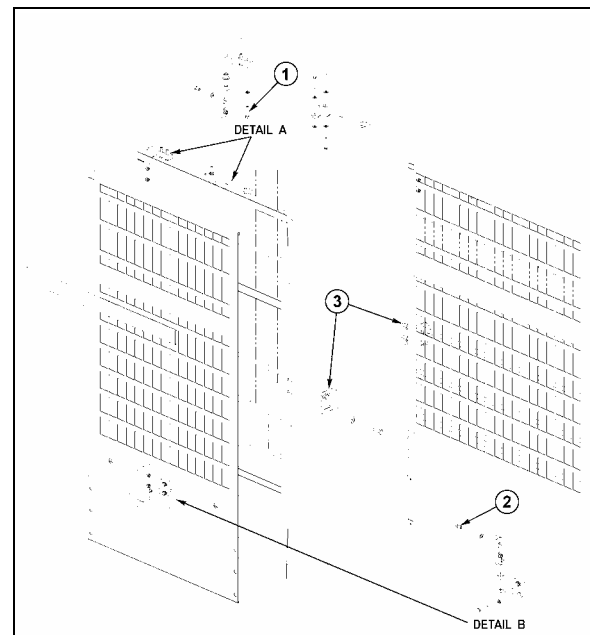

FIGURE 33: SMALL RADIATOR DOOR
1. Loosen the bolts, (1, Fig. 33) holding the hinge to the vehicle structure to shift the door "IN or OUT" and "UP or DOWN".
2. Loosening the bolts (2, Fig. 33) allows the door to be shifted "LEFT or RIGHT" and "UP or DOWN".
To adjust the latch mechanism (3, Fig. 33) and the striker pin: